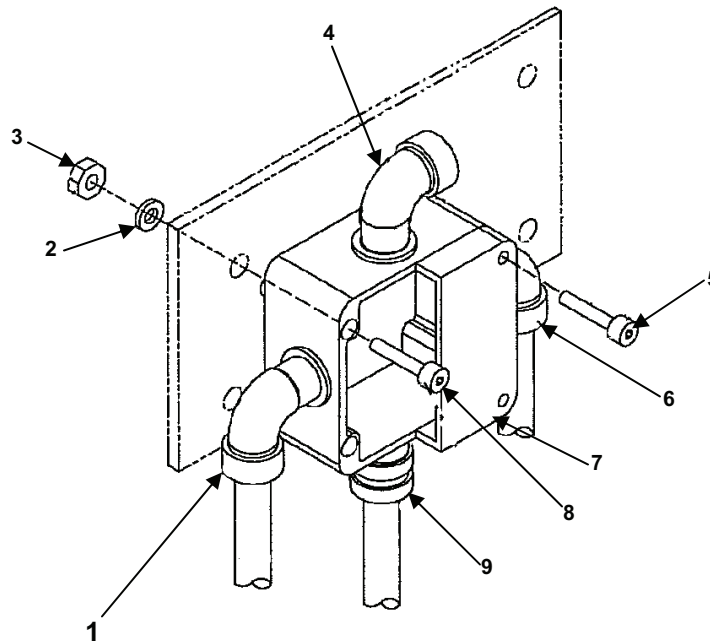

Figure 2. Chemical Module Junction Box Assembly.
1. Loosen four (4) screws (Figure 2, item 5) from the cover and remove the cover (Figure 2, item 7).
3. Remove chlorine pump conduit from hub (Figure 2, item 1).
4. Remove control panel cable from hub (Figure 2, item 4).
5. Remove antiscalant pump conduit from hub (Figure 2, item 9).
6. Remove coagulant pump from hub (Figure 2, item 6).
7. Remove four (4) screws (Figure 2, item 8), nuts (Figure 2, item 3), and washers (Figure 2, item 2) from junction box. Remove the junction box.